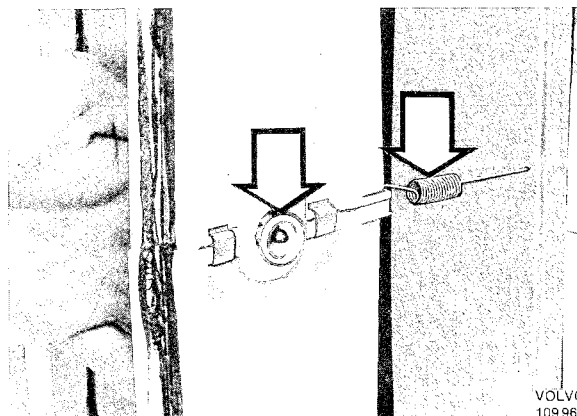

Fig. 8-83. Removing lock for vacuum motor
2. Bend loose the vacuum motor outer plastic lock (Fig. 8-83). Remove the vacuum motor from the housing and remove the spring.